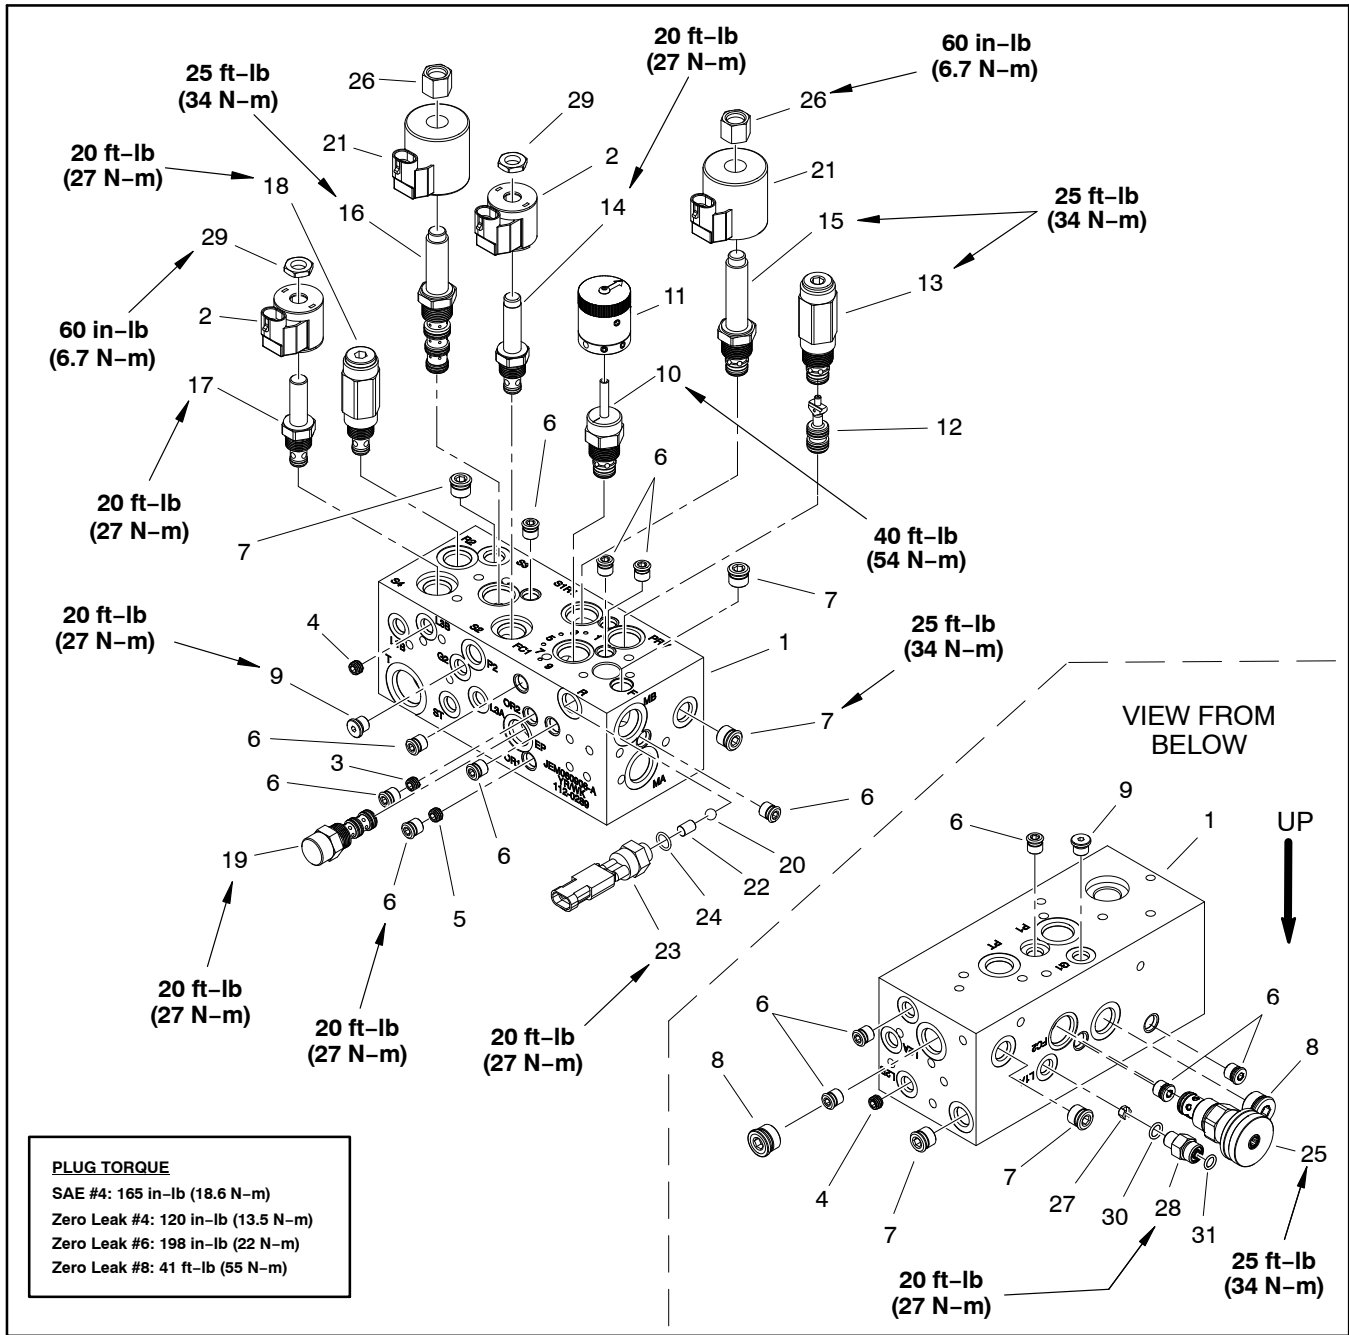

Figure 62
NOTE: The hydraulic manifold shown in Figure 62 uses several zero leak plugs. These plugs have a tapered sealing surface on the plug head that is designed to resist vibration induced plug loosening. The zero leak plugs also have an O-ring to provide a secondary seal. If zero leak plug removal is necessary, lightly rap the plug head using a punch and hammer before using an allen wrench to remove the plug; the impact will allow plug removal with less chance of damage to the socket head of the plug. When installing plugs into the manifold, torque plugs to the values identified in Figure 62.
- C. Torque cartridge valve using a deep well socket to specification shown in Figure 62.